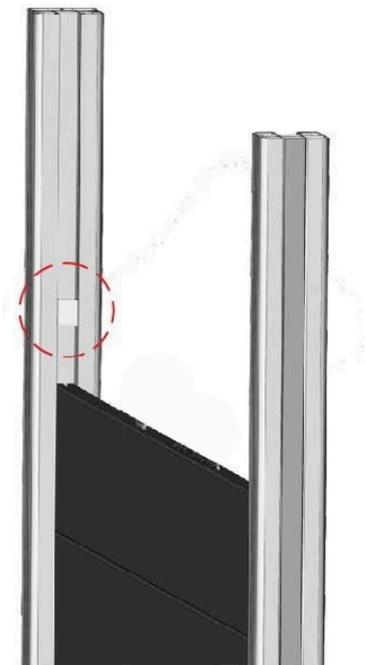
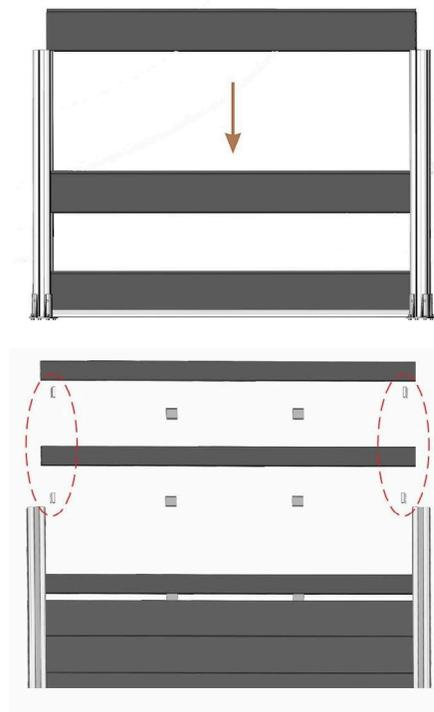

Figure 1
Figure 2
- Slide boards (A) into post channels.
- **MID TRELLIS + OPEN TRELLIS (Fig 1)**
- Between all or selected boards, slide or click Side Spacer (I) on either side of fence board.
- WPC PANELS: Add 2 Mid Spacers (G) between applicable boards (Fig 2)